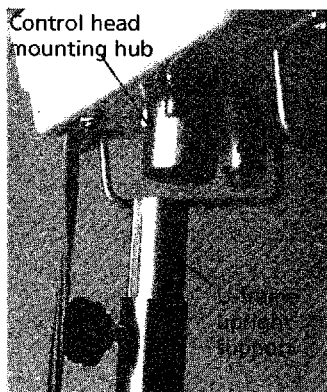

Figure 2. Mount the control head.
1. Align the control head mounting hub with the U-frame upright support and place the control head on the upright support (see Figure 2).